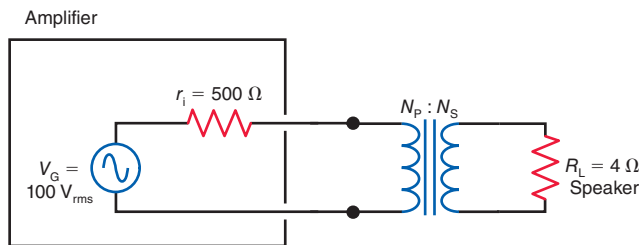

Figure 18-36
- 18.27** In Fig. 18-36, what turns ratio, $\frac{N_p}{N_s}$, will provide maximum transfer of power from the amplifier to the 4- Ω speaker?